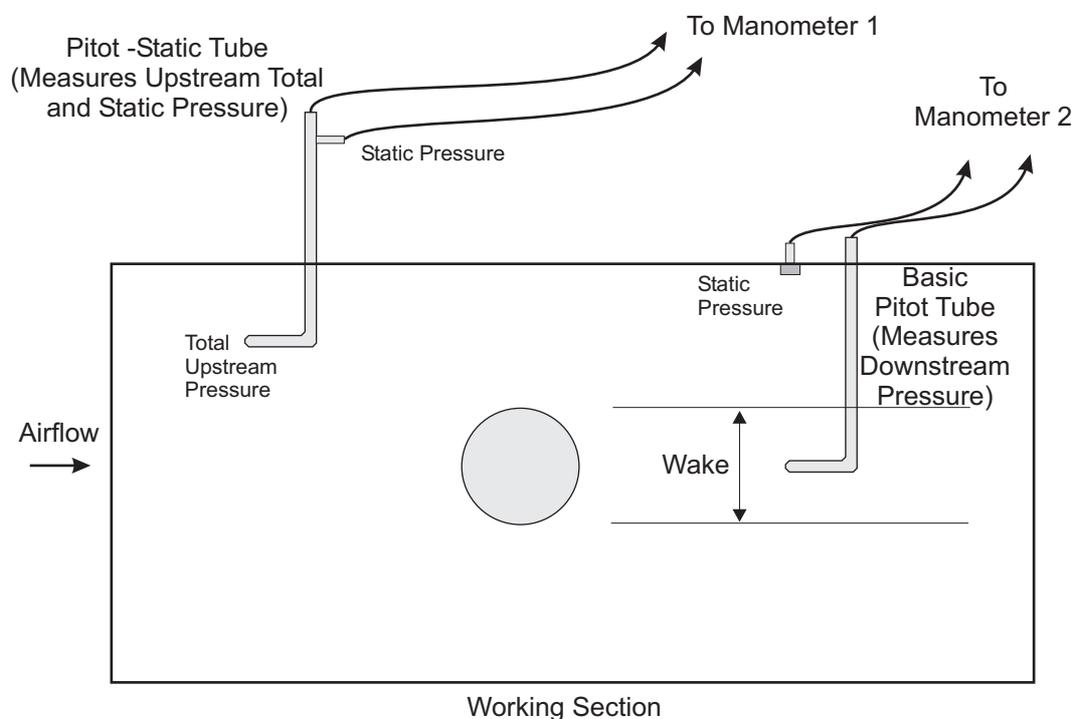

Figure 6 Wake Traverse Experiment Set Up
2. Fit the **pitot-static** tube to the **upstream** (free stream) position and the **basic pitot** tube to the **downstream** position on the working section (see Figure 6). Connect the pitot and pitot-static tubes to manometers as shown in Figure 6.